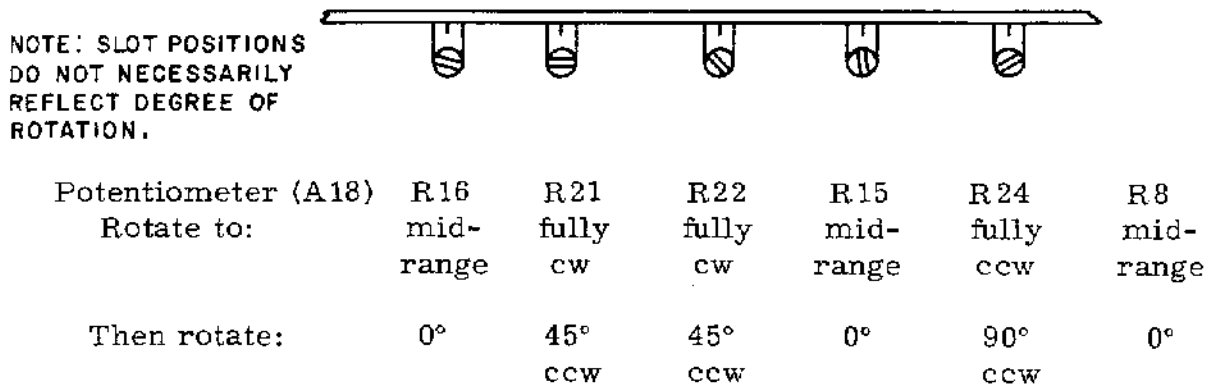

Figure 5-30. 1st LO Prealignment Adjustments
Steps (16) through (19) require computer control of the receiver for stepping tuned frequency between 7 and 24 MHz at a 30 mS rate. If this capability is not available leave potentiometers R21, R22, and R24 of board (A18) at the positions given in Figure 5-30 and proceed to step (20). This will provide a near optimum step response characteristic.